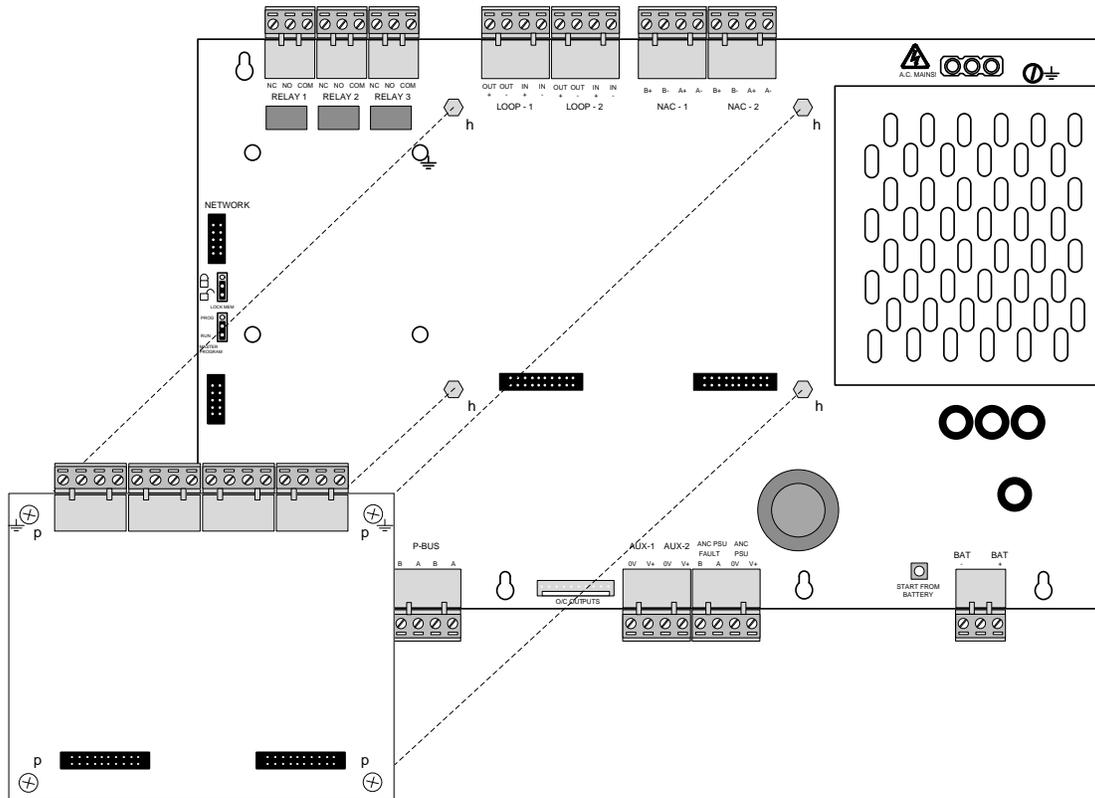

Figure 39 - NX-EM-LPD or NX-EM-NAC Module Mounting to NX-ACS-2L
The NX-EM-LPD and NX-EM-NAC modules are supplied with four (4) metal hexagon spacers [h] and four (4) screws [p]. Insert and tighten the four (4) metal hexagon spacers [h] to the NX-ACS-2L two-loop base card (see figure 39).
Position the module onto the metal hexagon spacers, while plugging the module into the two (2) 20-pin connectors on the NX-ACS-2L two-loop base card and secure with the four (4) supplied screws [p] (see figure 39). It is critical that these screws are tightly secured as the two top screws are required for the earth ground connection to the NX-EM-LPD or NX-EM-NAC module.